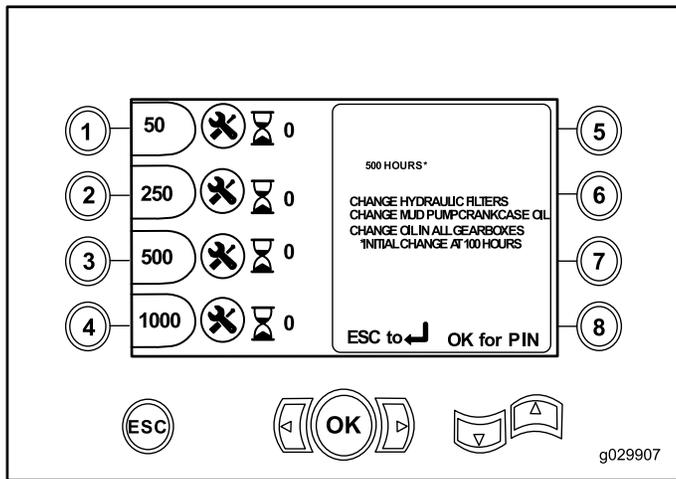

Figure 14
- Button 3—500-hours (Figure 14)